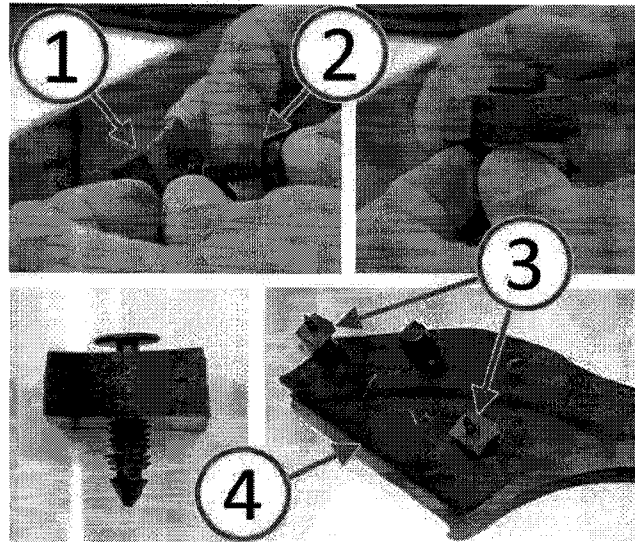

Fig. 4 Install Foam Seal
9. Install the created foam seal (1) onto the fir tree fastener (2) with the sticky side facing toward the fir tree fastener head (Fig. 4).
10. Install both fir tree fasteners with foam seal (3) onto the cowl trim panel (4) (Fig. 4).